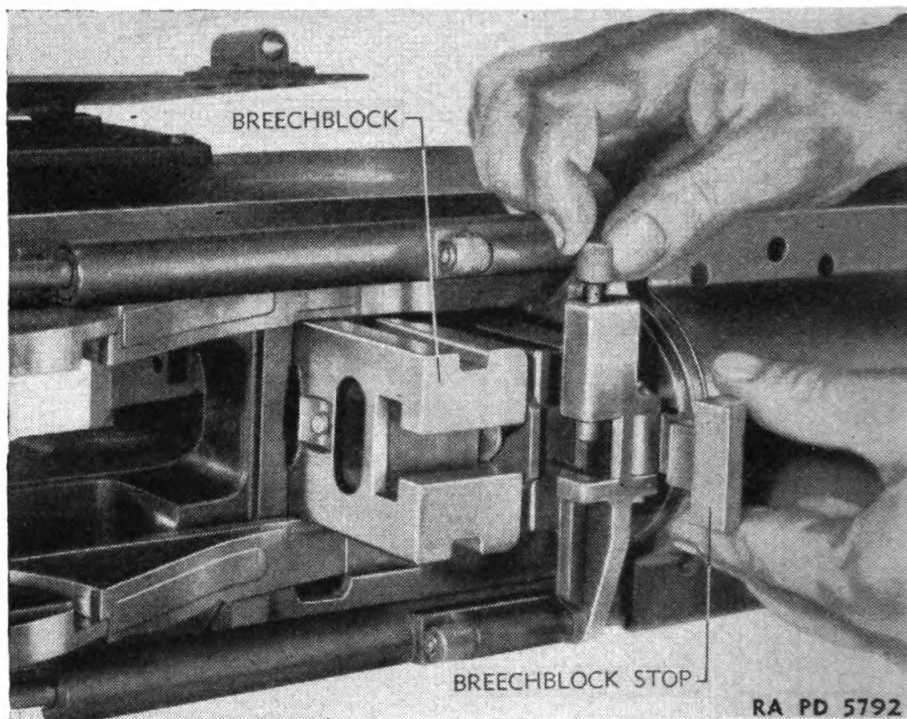

FIGURE 60.—Releasing breechblock stop for removal of breechblock.
(2) Pull the lock frame to the rear until caught by the carrier dog.
(3) Pull out breechblock stop retaining pin knob which releases breechblock stop (fig. 60). Lower the breechblock stop and allow the breechblock to drop out.